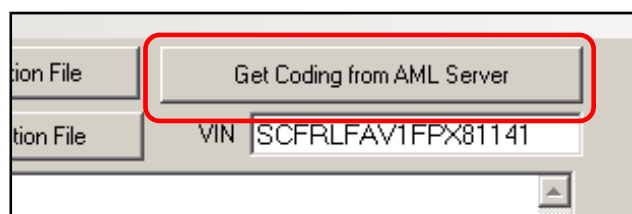

Figure 3
5. Select "Get Coding From AML Server" (refer to Figure 3)